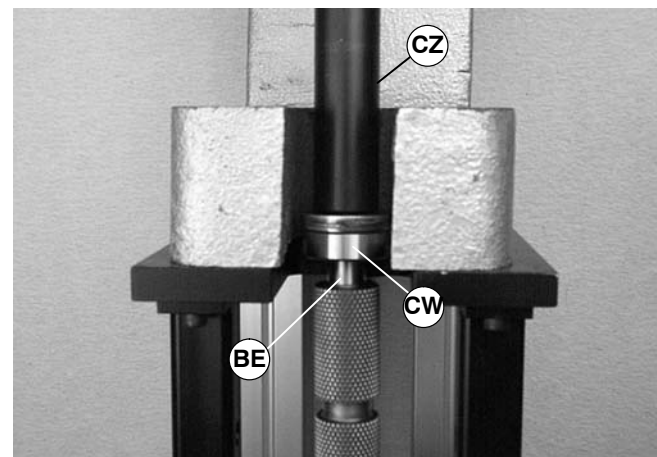

Figure 59
- Place the shaft of tool (part # 450282) (CZ of Figure 59) over drive pulley (BE).